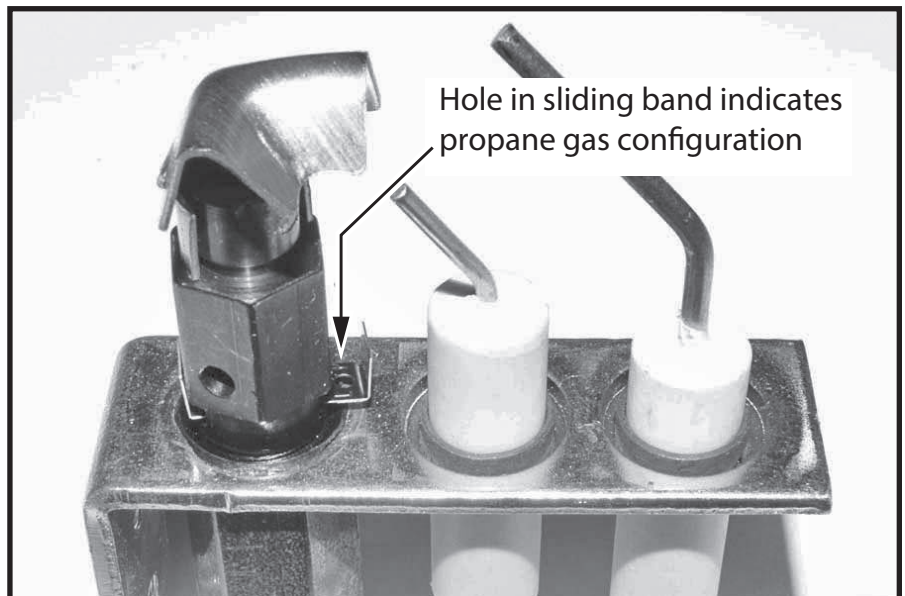

Figure 26: Pilot band in propane gas position.
7. Slide the pilot adjustment band over (Figure 26) and ensure that the hole in the orifice band is showing.